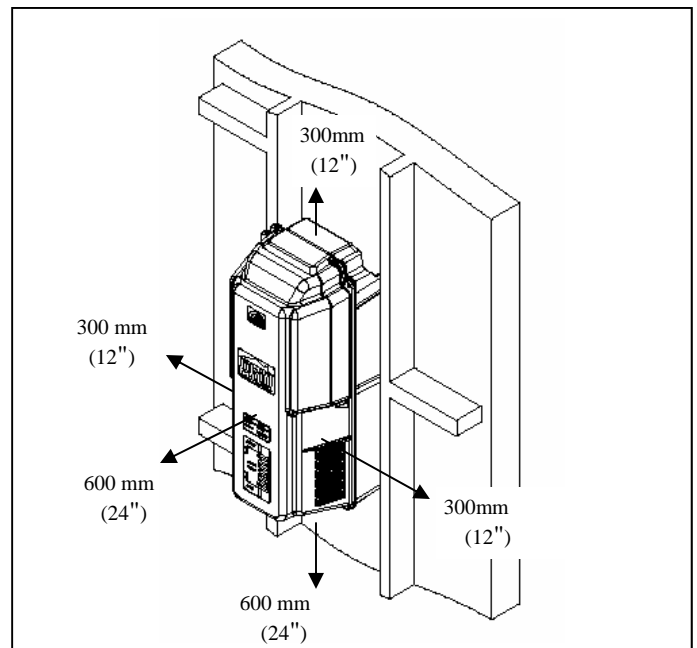

Figure 1 Service Clearances
- ✓ Minimum service clearances from adjacent construction (see Figure 1).
Ensure that the service clearances stated on the nameplate are maintained. (see Figure 1) Ensure there are no obstructions or objects (e.g. shelves) within these distances.